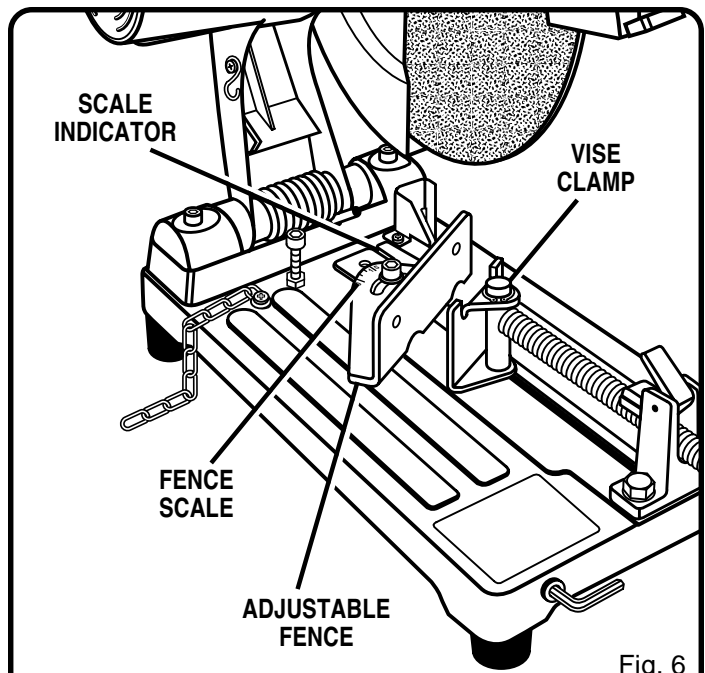

Fig. 6
See Figure 6.
See Figures 6 and 7.
- This will secure the fence in place at desired angle. See Figure 6.